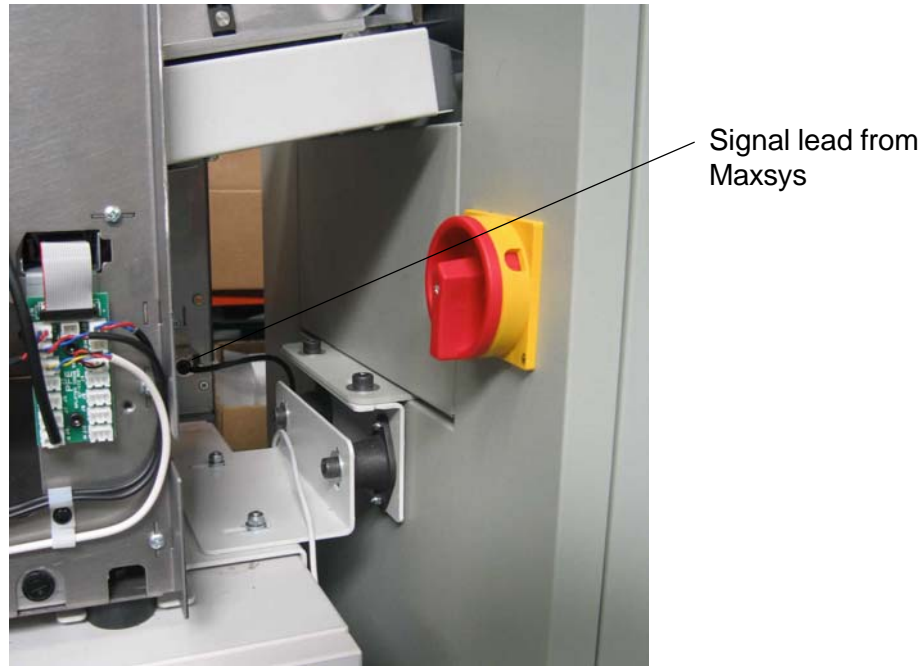

Fig. 1.9
- 1.7.1 The Maxsys physically connects to the Datacard Turnover Interface using Connecting Bracket Kit A3288A, as shown in Fig. 1.9 below. An exploded view of the assembly is also shown in section 4.8. Note that the brackets are adjustable in all directions – adjust the brackets so that the infeed tray is positioned as shown in Fig. 1.9, such that folded documents pass smoothly onto the conveyor (see also section 3.2.1).
- 1.7.2 Plug the signal lead from the Maxsys into the connector on the side of the DTI, as shown in Fig. 1.9 above.